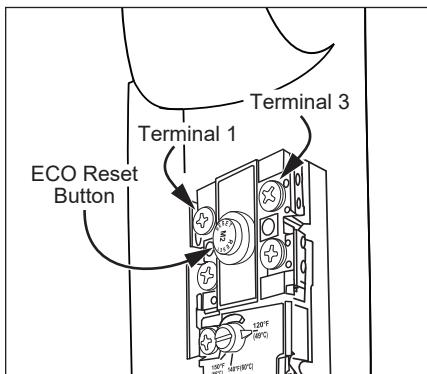

Figure 33 - Energy Cut Off (ECO) Button.
Check the Top Two Screws of the ECO Using a Non-Contact Circuit Tester and Confirm that Power is OFF (screw terminals 1 and 3 shown in Figure 33).
- Press the red ECO reset button (Figure 33).